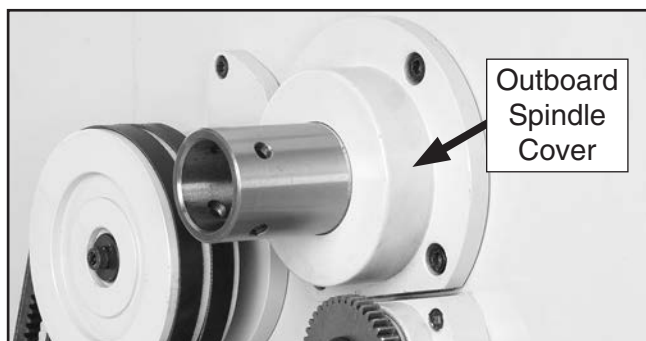

Figure 115. Outboard spindle cover.
4. Remove end gear cover, then remove the outboard spindle cover (see **Figure 115**).